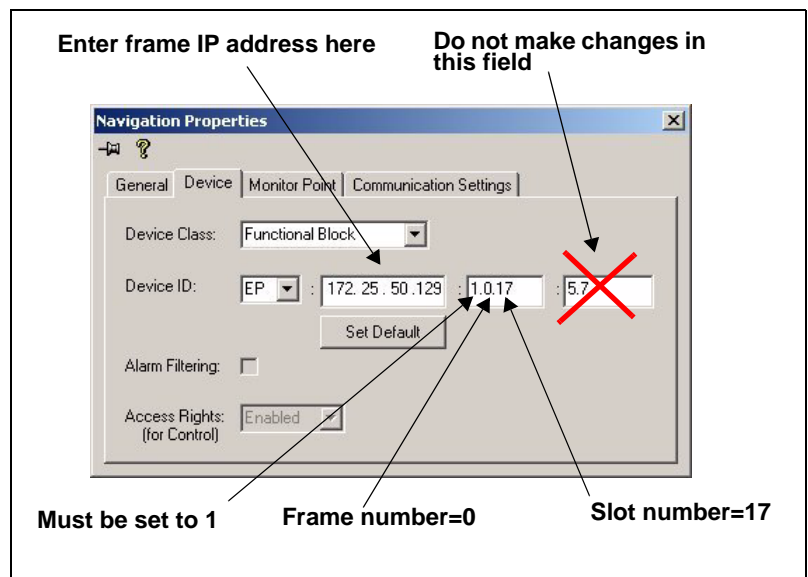

Figure 2-7. Navigation Properties Box
3. On the **Device** tab of the **Navigation Properties** box, enter the IP address of the frame that holds the module. (See Figure 2-7.)